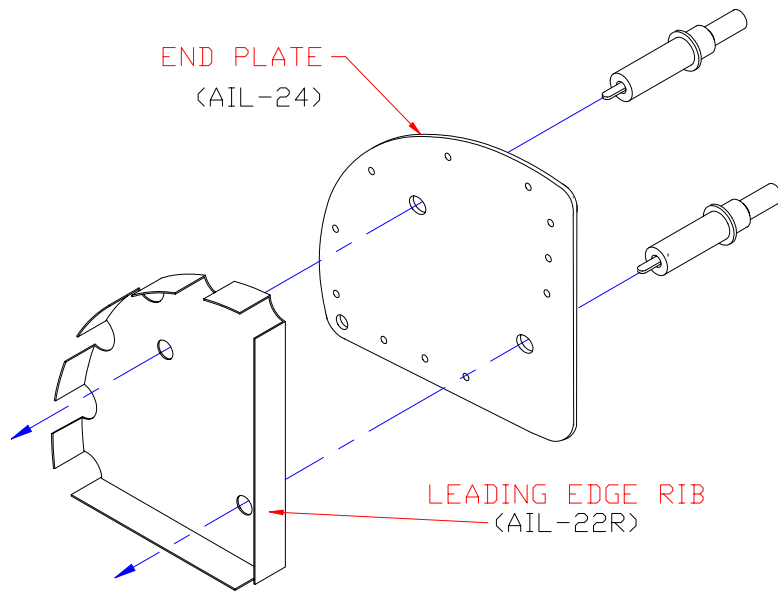

Figure 7.1.3
- 4) Cleco the End Plate (AIL-24) back onto the Leading Edge Rib. Figure 7.1.3.